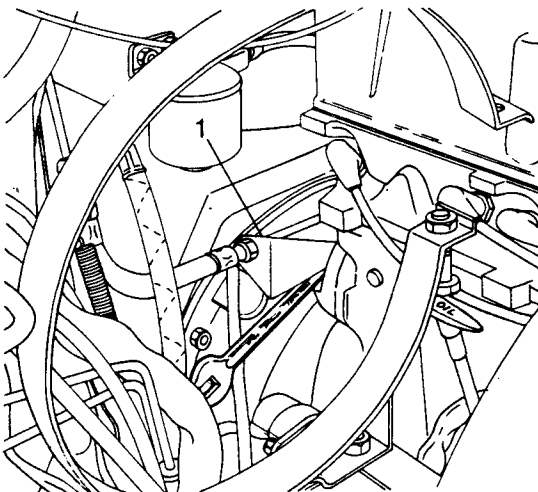

Fig B4.23
- (12) Refer to Fig B4.23. Refit the clutch hose and speedometer cable bracket (1) at the flywheel housing.